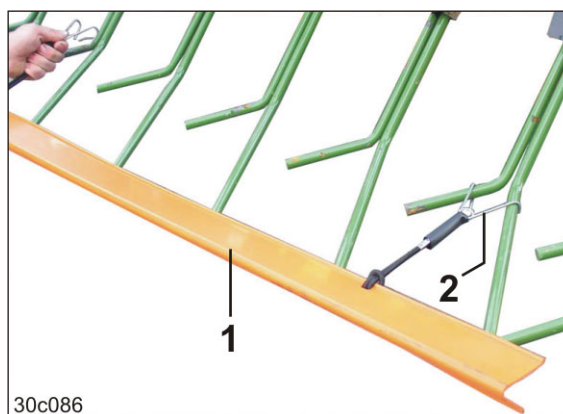

Fig. 167
18. Fit the road safety bar (Fig. 167/1) on the rigid section of the exact harrow over the tine tips.
19. Fasten the transport securing bar with spring holders (Fig. 167/2) to the exact harrow.